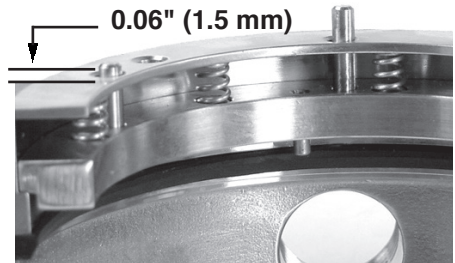

Figure 17
- 5.4 Keep the spring holder snug in the gland bore and press the lock pins into the spring holder until the pins extend 0.06 inch (1.5 mm) out of the gland. See Figure 17.